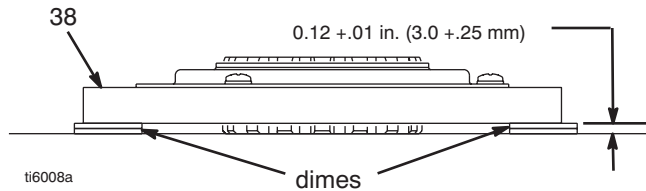

FIG. 7
1. FIG. 7. Lay two stacks of two dimes on smooth bench surface.
2. Lay armature (38) on two stacks of dimes.